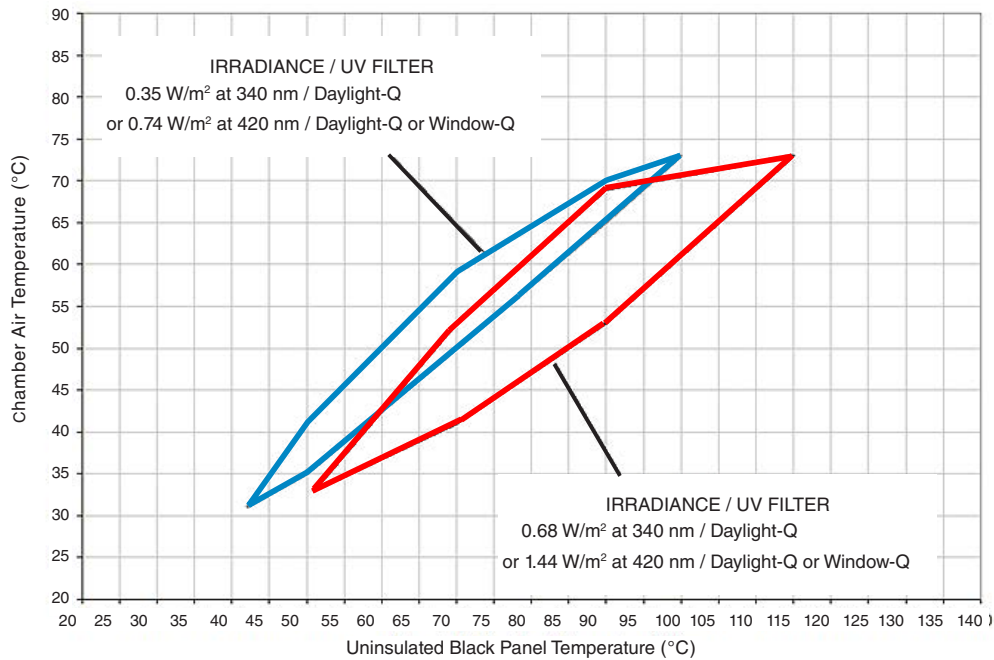
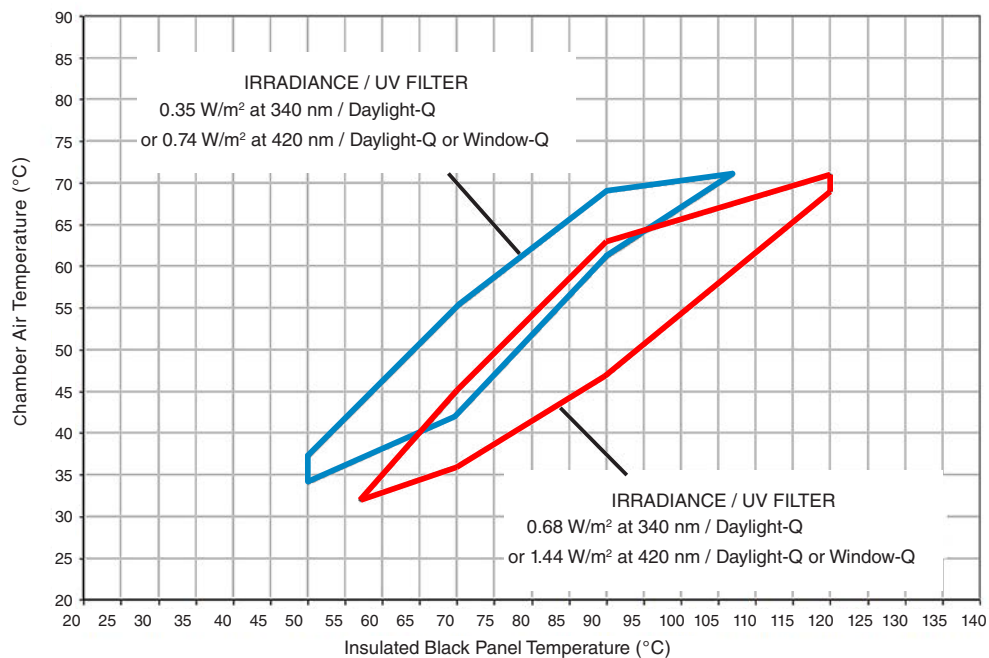

Figure 11.2a: **Uninsulated** Black Panel vs. chamber air temperature at 50% relative humidity and 23 °C Lab temperature.
Figure 11.2b: **Insulated** Black Panel vs. chamber air temperature at 50% relative humidity and 23 °C lab temperature.
- Figures Figure 11.2a and Figure 11.2b show the chamber air temperature ranges for non-chiller Xe-3 models.